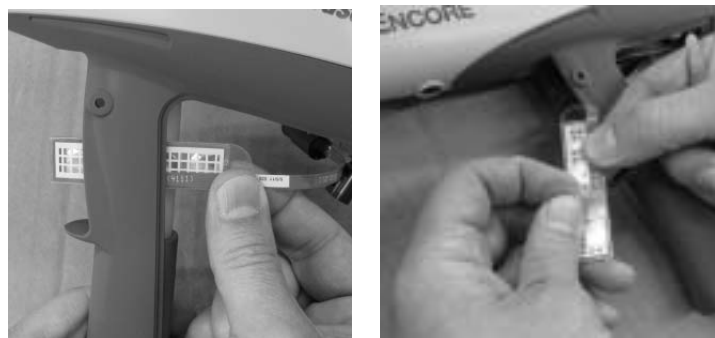

Figure 6-9 Installing the Trigger Switch – Steps 1 and 2
1. See Figure 6-9. Orient the new switch with the grid facing away from the inlet tube, then carefully feed the square, bottom end of the switch (23) around the left side of the inlet tube (25) and through the slot in the trigger recess.